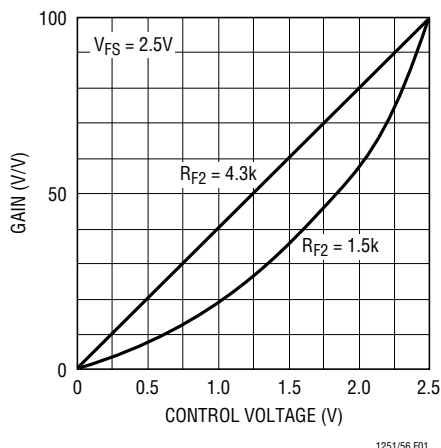

Figure 1. Linear Gain Control from 0 to 101
If the two input stages are not operating with equal gain, the gain versus control voltage characteristic will be nonlinear. This is true even if R_{F1} equals R_{F2} . This is because the open-loop characteristic of a current feedback amplifier is dependent on the Thevenin impedance at the inverting input. For linear control of the gain, the loop gain of the two stages must be equal. For an extreme example, let's take a gain of 101 on input 1, $R_{F1} = 1.5k$ and $R_{G1} = 15\Omega$, and unity-gain on input 2, $R_{F2} = 1.5k$. The curve in Figure 1 shows about 25% error at midscale. To eliminate this nonlinearity we must change the value of R_{F2} . The correct value is the Thevenin impedance at inverting input 1 (including the internal resistance of 27 Ω) times the gain set at input 1. For a linear gain versus control voltage characteristic when input 2 is operating at unity-gain, the formula is:
Figure 1 is a line graph showing the normalized drain current Q on the y-axis (ranging from 0 to 6) versus the gate voltage V_Q (V) on the x-axis (ranging from 0 to 2.5). The curve starts at approximately $Q = 5.2$ for $V_Q = 0.2$ V and decreases sharply to $Q \approx 2.5$ at $V_Q = 0.5$ V. Beyond $V_Q = 0.5$ V, the decrease in Q becomes more gradual, reaching approximately $Q = 0.6$ at $V_Q = 2.5$ V. A label $V_{FS} = 2.5$ V is present in the upper right corner of the plot area.